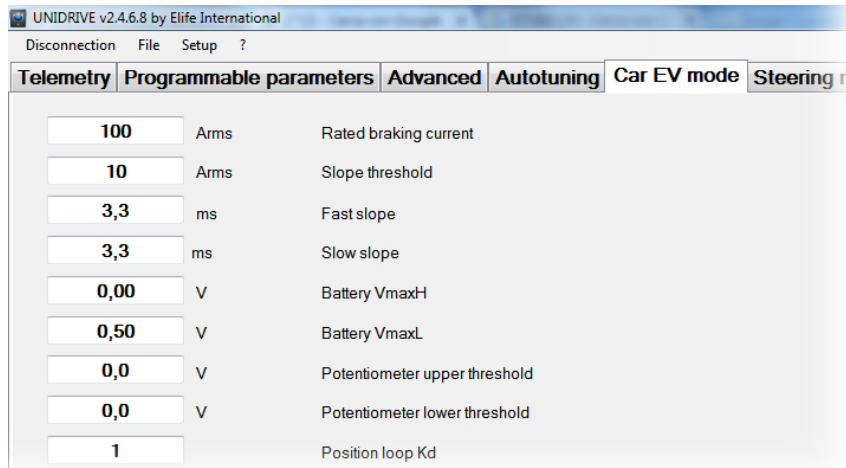

Figure 3.8: In Car EV mode tab you can configure specific programmable parameters and see telemetry data for this operating mode.
The **EV mode** is specially designed to control motors mounted in Electric Vehicles (EV). This operating mode employs sophisticated proprietary algorithms to offer you a driving experience as much as possible similar to traditional gasoline engine vehicles. In **Car EV mode** tab you can configure specific programmable parameters and see telemetry data for this operating mode (Figure 3.8).